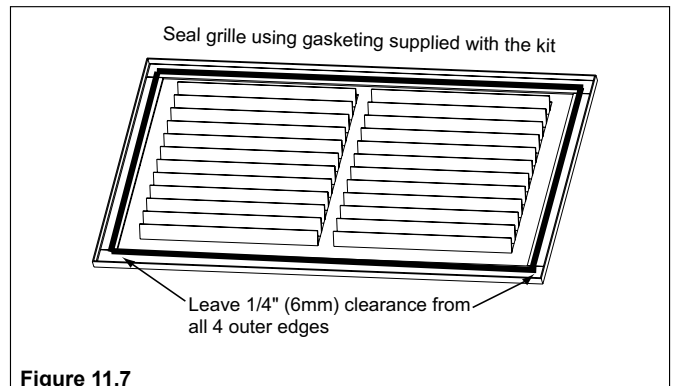

Figure 11.7
9. Seal all the way around the inside of the Return Air Grille to prevent hot air being drawn back into the venting system using gasketing supplied with the kit. Leave 1/4 in. (6mm) clearance from all 4 outer edges. Trim excess gasketing. See Figure 11.7